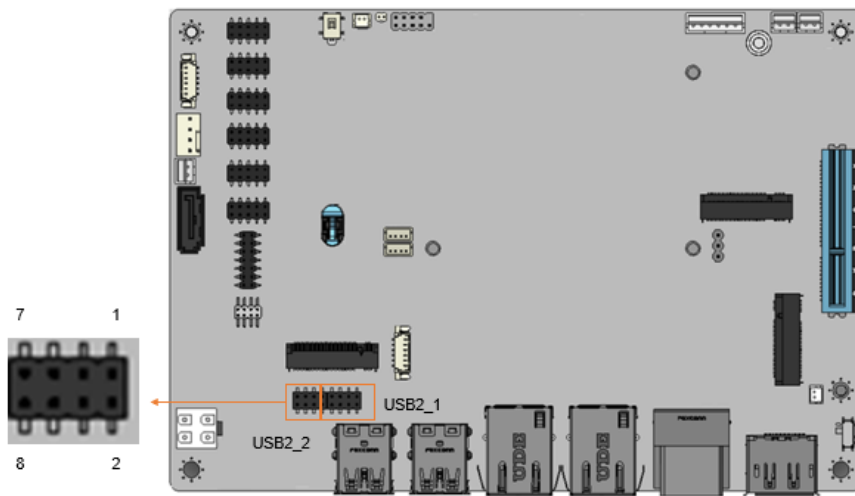

Figure 3-27: Internal USB 2.0 Connector Location
- CN Location:** See Figure 3-27